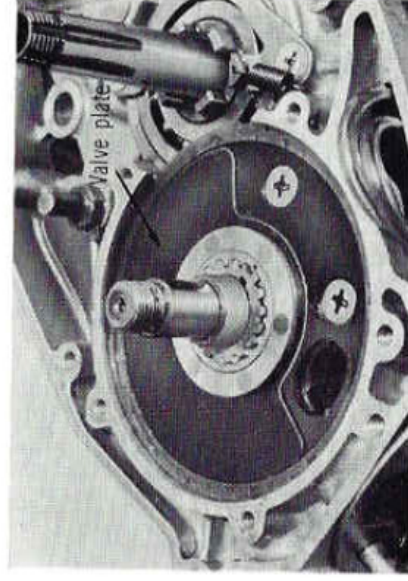

Fig. 8-2-25
26. Remove the **valve plate** and the **valve guide** by hand. (Fig. 8-2-25)